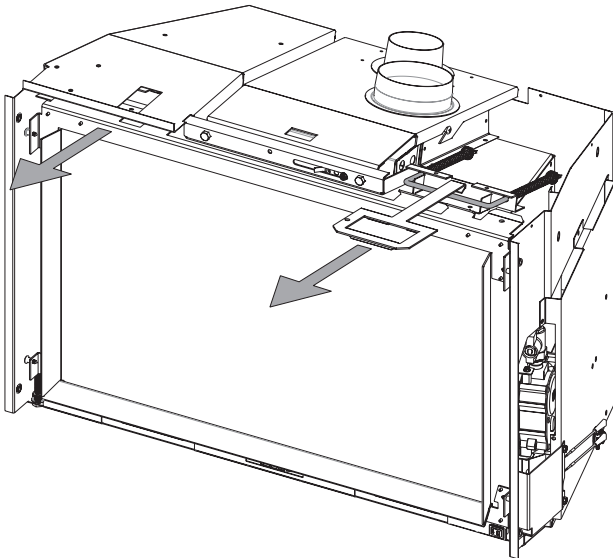

Figure 17
19. Remove glass door assembly: Using the glass door latch tool provided, hook onto the latches on the top of the insert and pry it over the glass door assembly flanges. The top of the glass door assembly will angle toward you. Simply lift to remove the glass door assembly. **See Figure 17.**